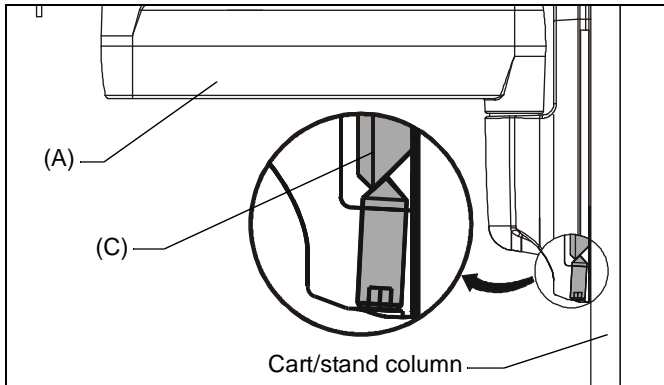

Figure 5
- Tighten set screw using 5/32" hex key (N). (See Figure 5)
CAUTION: IMPROPER INSTALLATION CAN LEAD TO DISPLAY FALLING CAUSING SERIOUS PERSONAL INJURY OR DAMAGE TO EQUIPMENT! Make sure set screw engages back side of assembly bracket on cart/stand column. (See Figure 5)